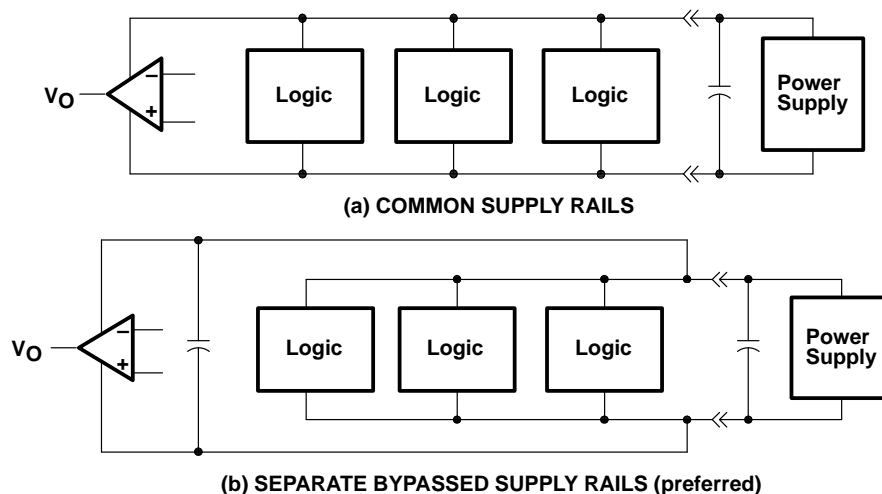

Figure 39. Common Versus Separate Supply Rails
1. Power the linear devices from separate bypassed supply lines (see Figure 39); otherwise, the linear device supply rails can fluctuate due to voltage drops caused by high switching currents in the digital logic.